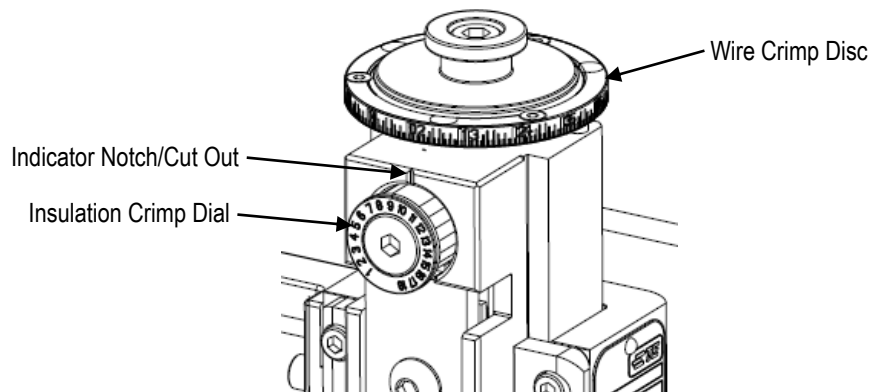

Figure 11
3. Turn the Wire Crimp Disc to line up with the specified crimp height reference setting number with the indicator notch/cut out on the front of the Ram (see Figure 11).
The insulation crimp is adjustable in increments of 0.19 mm [.0075 in.] by pulling the Insulation Crimp Dial out (see Figure 11) and turning it to line up with the number (1 through 18) that it is shown at the indicator notch on the ram; No. 1 makes the loosest crimp and No. 18 makes the tightest crimp. The maximum range of adjustment is approximately 3.30 mm [.130 in.]. To find the desired insulation crimp, start with No. 1, make test crimps, then increase the setting one number at a time until the proper insulation crimp height is achieved.